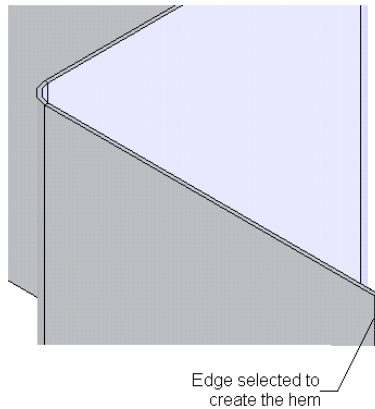
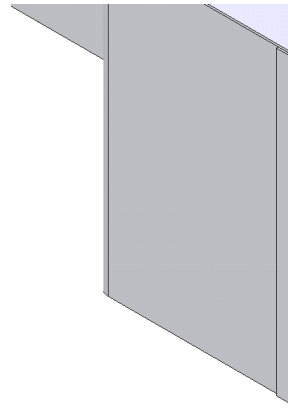

Figure 16-151 Edge selected to create hem
Figure 16-152 Resultant hem created
- Add a hem to the right most flange, refer to Figures 16-151 through 16-152.
3. Select the edge as shown in Figure 16-151. The resultant hem is displayed in Figure 16-152.